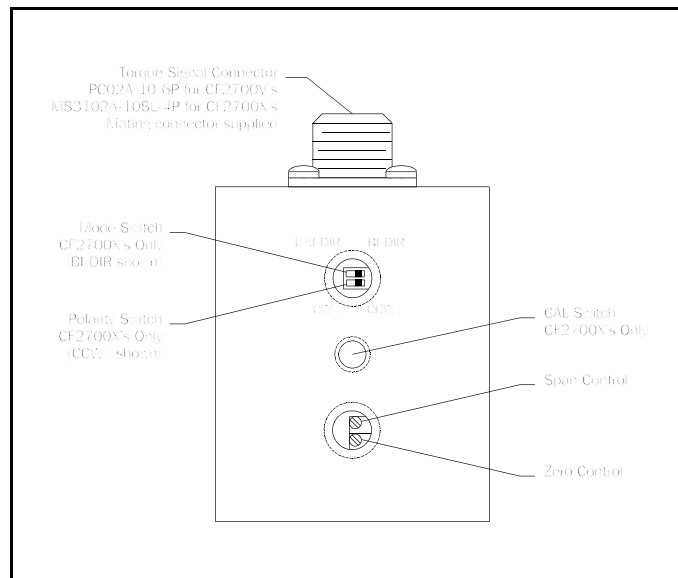
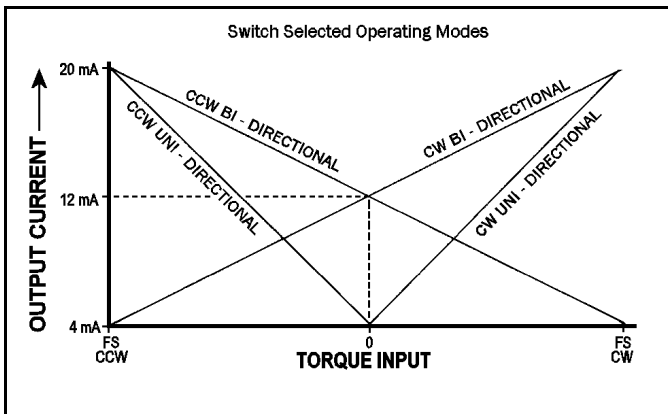

Figure 8. CF2700 Sensor Control Locations
Figure 9. CF2700X Torque Transmitter Operating Modes
**These adjustments must be made with zero torque on the driveline.** To achieve zero torque in installations that can "lock-in" friction torques (between gear drives, on a pump drive or other sealed shafts, etc.), break or disconnect one of the shaft couplings. All user controls are located in the torque connector housing; refer to Figure 8. Proceed as follows:
Torque Transmitters have two modes; unidirectional (4-20mA loop current) and bidirectional (8±12mA loop current). Figure 9 illustrates mode and polarity choices. Mode and Polarity are selected by switches inside the connector housing; see Figure 8. Remove the threaded cover to access the switches and replace it after making selections. Torque Transmitters are shipped in the CW, bidirectional mode. That mode permits measurement of bidirectional and/or reversing shaft systems. You may also use it to experimentally determine the torque direction. Then, after it is known, the transmitter mode may be changed as needed. **Zero and Span should be re-adjusted after a mode change;** see Section C.2.2.
Internal Calibration is enabled by pressing and holding the Cal Switch located in the connector housing; see Figure 8. While the switch is operated, the transmitter will output the Calibration Torque as the listed Loop Current. Please note, this procedure should be done with zero torque on the driveline. If calibration is done when the driveline torque is not zero, then the calibration signal will add algebraically with the driveline torque.
*These adjustments must be made with zero torque on the driveline.* To achieve zero torque in installations that can "lock-in" friction torques (between gear drives, on a pump drive or other sealed shafts, etc.), break or disconnect one of the shaft couplings. All user controls are located in the connector housing, refer to Figure 8. Proceed as follows:
current will vary linearly. Thus, when operating in the unidirectional mode, half scale torque results in a 12.00 mA loop current, 25% of full scale torque produces an 8.00 mA loop current, etc. See Figure 9 for more information.